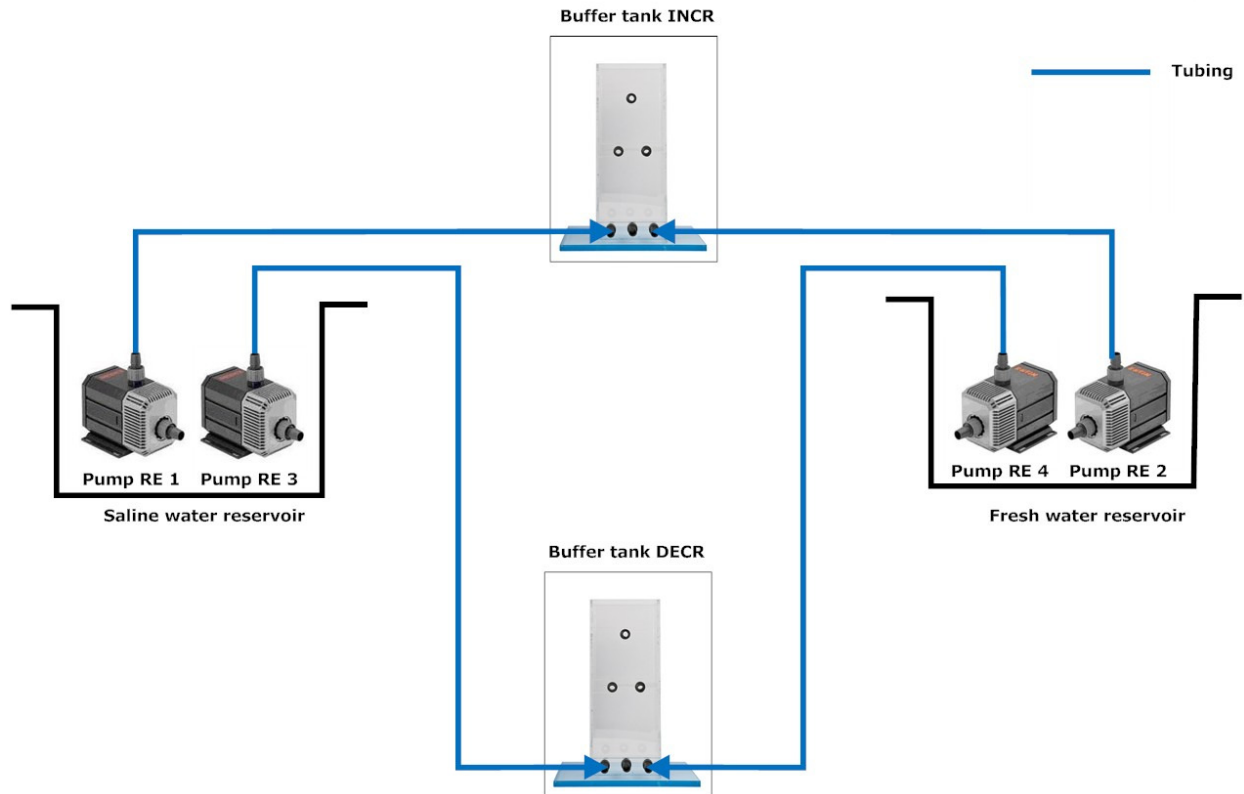

Figure 3: How to connect the buffer tanks with the saline and fresh water reservoirs (not supplied) for running a ShuttleBox salinity experiment.
Connect the buffer tanks with the salinity regulation pumps (RE) as shown in Figure 3. Place the pumps in the saline/fresh water reservoirs (not included).